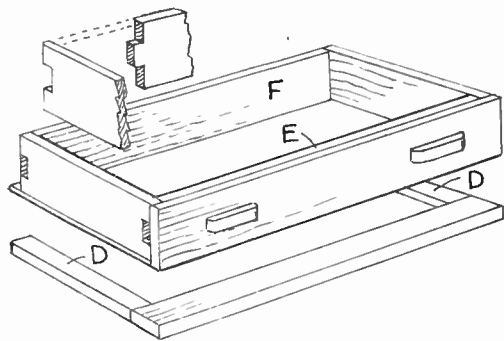
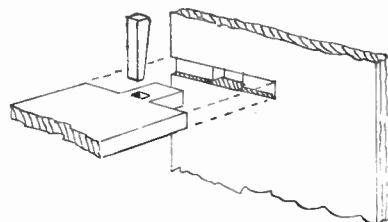
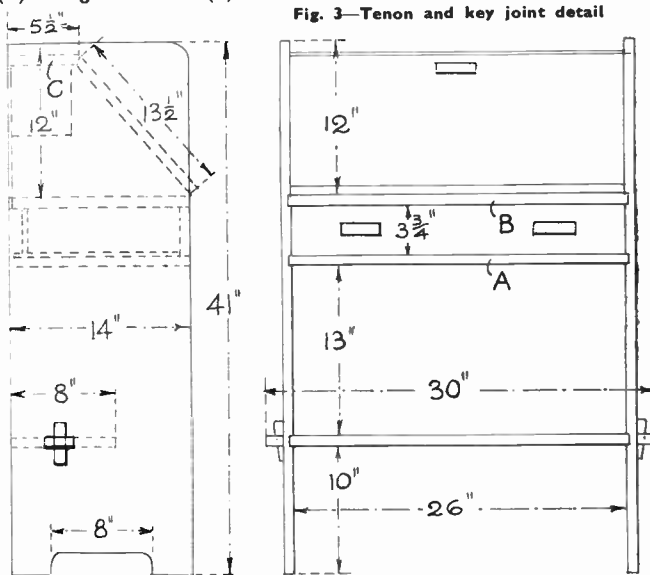

Fig. 4—Construction of drawer and framework
Fig. 3—Tenon and key joint detail
Fig. 2—Side and front view giving details and dimensions of parts
Sheets of newspaper are arranged in a triangular form, as shown in Fig. 2. There should be two or three thicknesses. The front point is then brought up over the instep, as in Fig. 3, and finally the other two corners are brought over, giving the result as at Fig. 4.
Wood  $\frac{3}{4}$  in. or  $\frac{1}{2}$  in. thick should be used for the main carcase of the bureau, with  $\frac{1}{2}$  in. stuff for certain parts of the drawer and  $\frac{1}{4}$  in. wood for the interior compartments. There is no need to describe the construction of the bureau in detail, because the front view and side view given in Fig. 2 show all the parts plainly.
A small mortise is next cut in each end upright measuring 2  $\frac{1}{2}$  ins. long and  $\frac{3}{4}$  in. wide to receive the tenon on the end lower shelf, see side view Fig. 2. The position of the mortise needs carefully setting out and checking on each upright for height and back measurement.
being 13  $\frac{1}{2}$  ins., while (C) is 5  $\frac{1}{2}$  ins. The extreme lower cross rail or shelf will be 30 ins. long, its width 8 ins. Mark off 1  $\frac{1}{2}$  ins. from each end of the shelf and set out the projecting tenons and the square holes to take the keys. All this is shown in the detail Fig. 3.
It should be stated that the front edge of top shelf (C) must be planed to a chamfer, as seen in Fig. 2, to allow the falling front to rest upon it at the right angle. Before actually gluing the various parts, test the shelves and their housings and the mortise and tenons of the lower shelf. Apply glue to the ends of the lower shelf and wedge up securely with the wedge-shaped keys.
The middle rail (A), it will be noted from the diagram Fig. 4, is not a wide rail like its neighbour (B) above, but merely consists of a narrow board
The drawer is made as shown in Fig. 4. The front will be 26 ins. long by 3½ ins. wide by ¾ in. thick. The drawer slides are 12½ ins. long, 3½ ins. wide and ½ in. thick.
The inner front and the back, pieces (E) and (F) respectively, are 26 ins. long by 3½ ins. wide and ¾ in. thick. The four pieces forming, as it were, the inside frame of the drawer, are lapped together at the angles and glued up, as in the enlarged detail in Fig. 4.